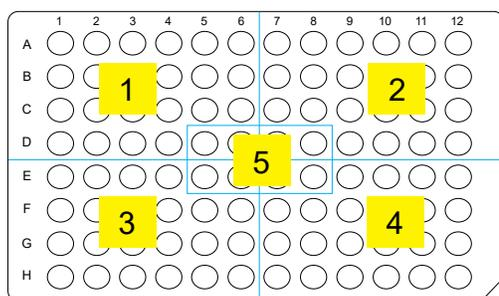

Figure 8 The 5 plate sectors.
- Vortex deep-well plates for 5 seconds in each of the 5 sectors. See the sectors in Figure 8.